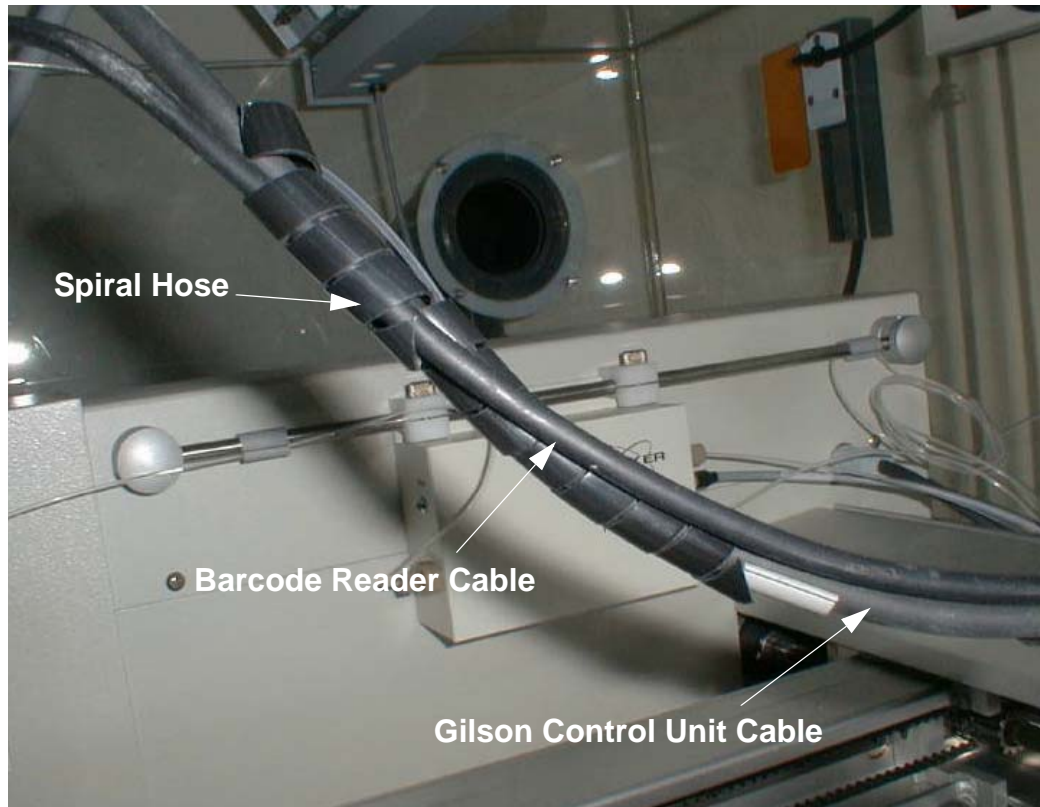

Figure 3.4: Securing the Barcode Reader Cable to the Control Unit Cable
4. Affix the barcode reader cable to the Gilson Control Unit cable using the spiral hose (see figure 3.4).